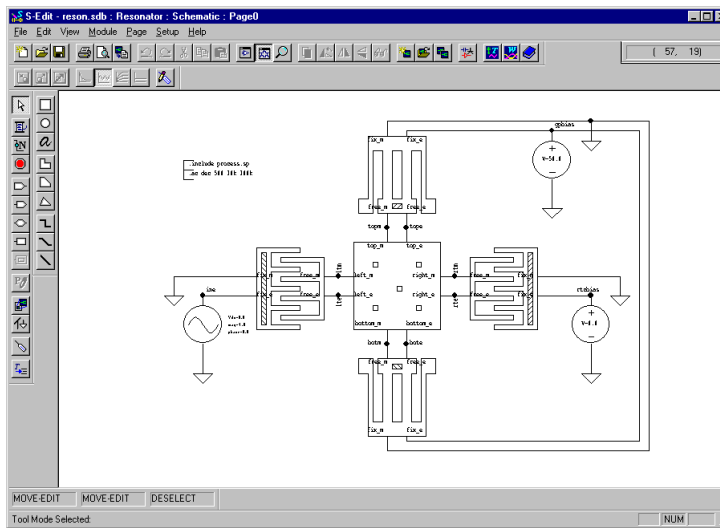

Figure 1: Schematic view of the complete resonator
The current (visible) file, module, page, and mode are named at the top of the title bar. The schematic view of the resonator appears in Figure 1.
- ☑ Compare your design to the finished design in Figure 1 to make sure you have placed the voltage sources correctly.
- ☑ Compare your wiring to the completed schematic presented in Figure 1.
- ☑ Compare your design to the finished design presented in Figure 1 to make sure the resonator has been wired correctly.